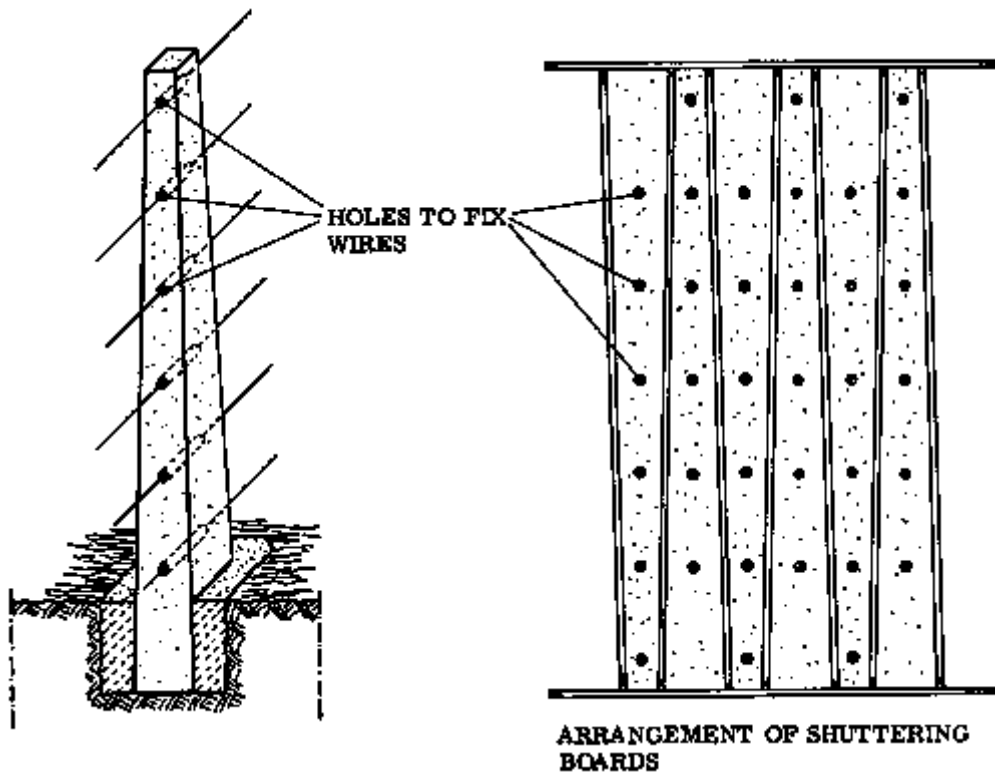

Fig. 1
- REINFORCED CONCRETE POSTS: For fencing purposes (Fig. 1).